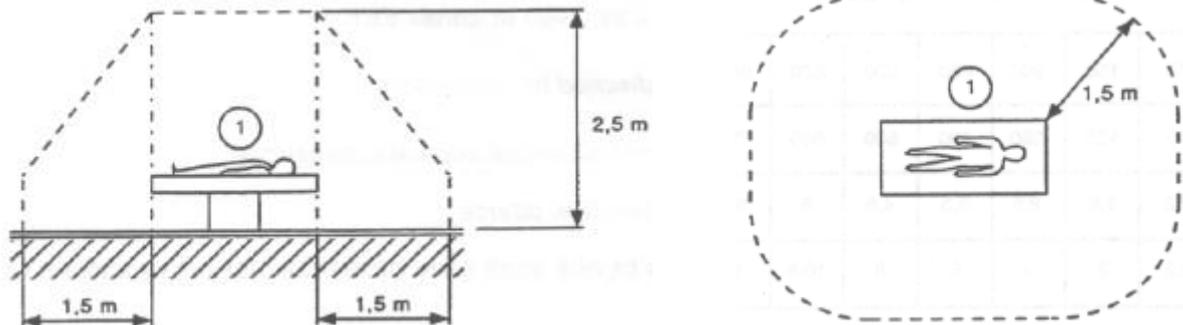

Fig 10 - Patient Area
- Within the “Patient Area” (see Fig 10) it is recommended to use easily washable devices that are protected from liquids.
- Within the “Patient Area” (see Fig 10) it is recommended to use washable, sterilizable rubber keyboards and mouse devices. For “touch screens” it is recommended to adopt capacitive technology (insensitive if used with gloves) because it discourages using gloves (sometimes contaminated).